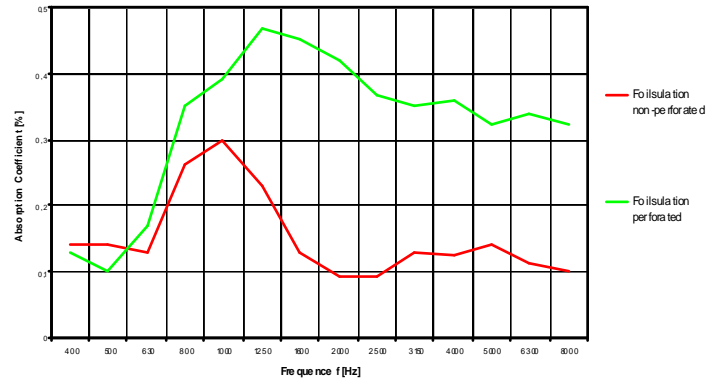

fig. 2. Acoustical absorption of Foilsulation®
- **DIEDRICHS' innovation:** integration of noise absorbing functions with micro fine holes, see fig. 2.